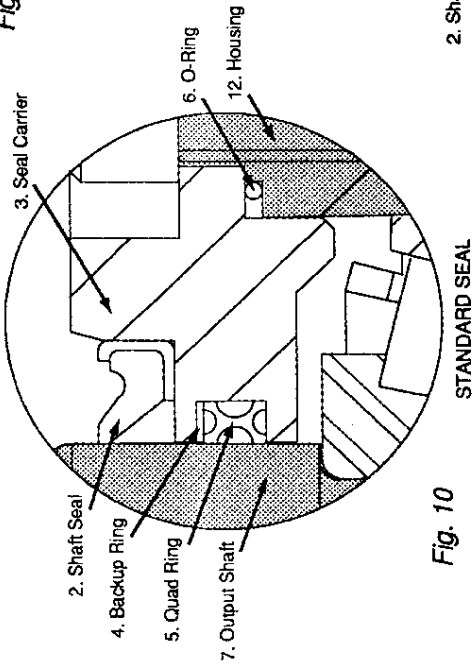

Fig. 10
20. Lubricate backup ring (4), quad ring (5) and 'O' ring (6). Insert backup ring and quad ring in groove of seal carrier. (Fig. 10) Place 'O' ring (6) on seal carrier pilot. (Fig. 8)
21. Press seal (2) into its counterbore in seal carrier. (Fig. 10) The open face of the seal should be up. This seal functions as a wiper only and is installed to keep contaminants out of the unit.